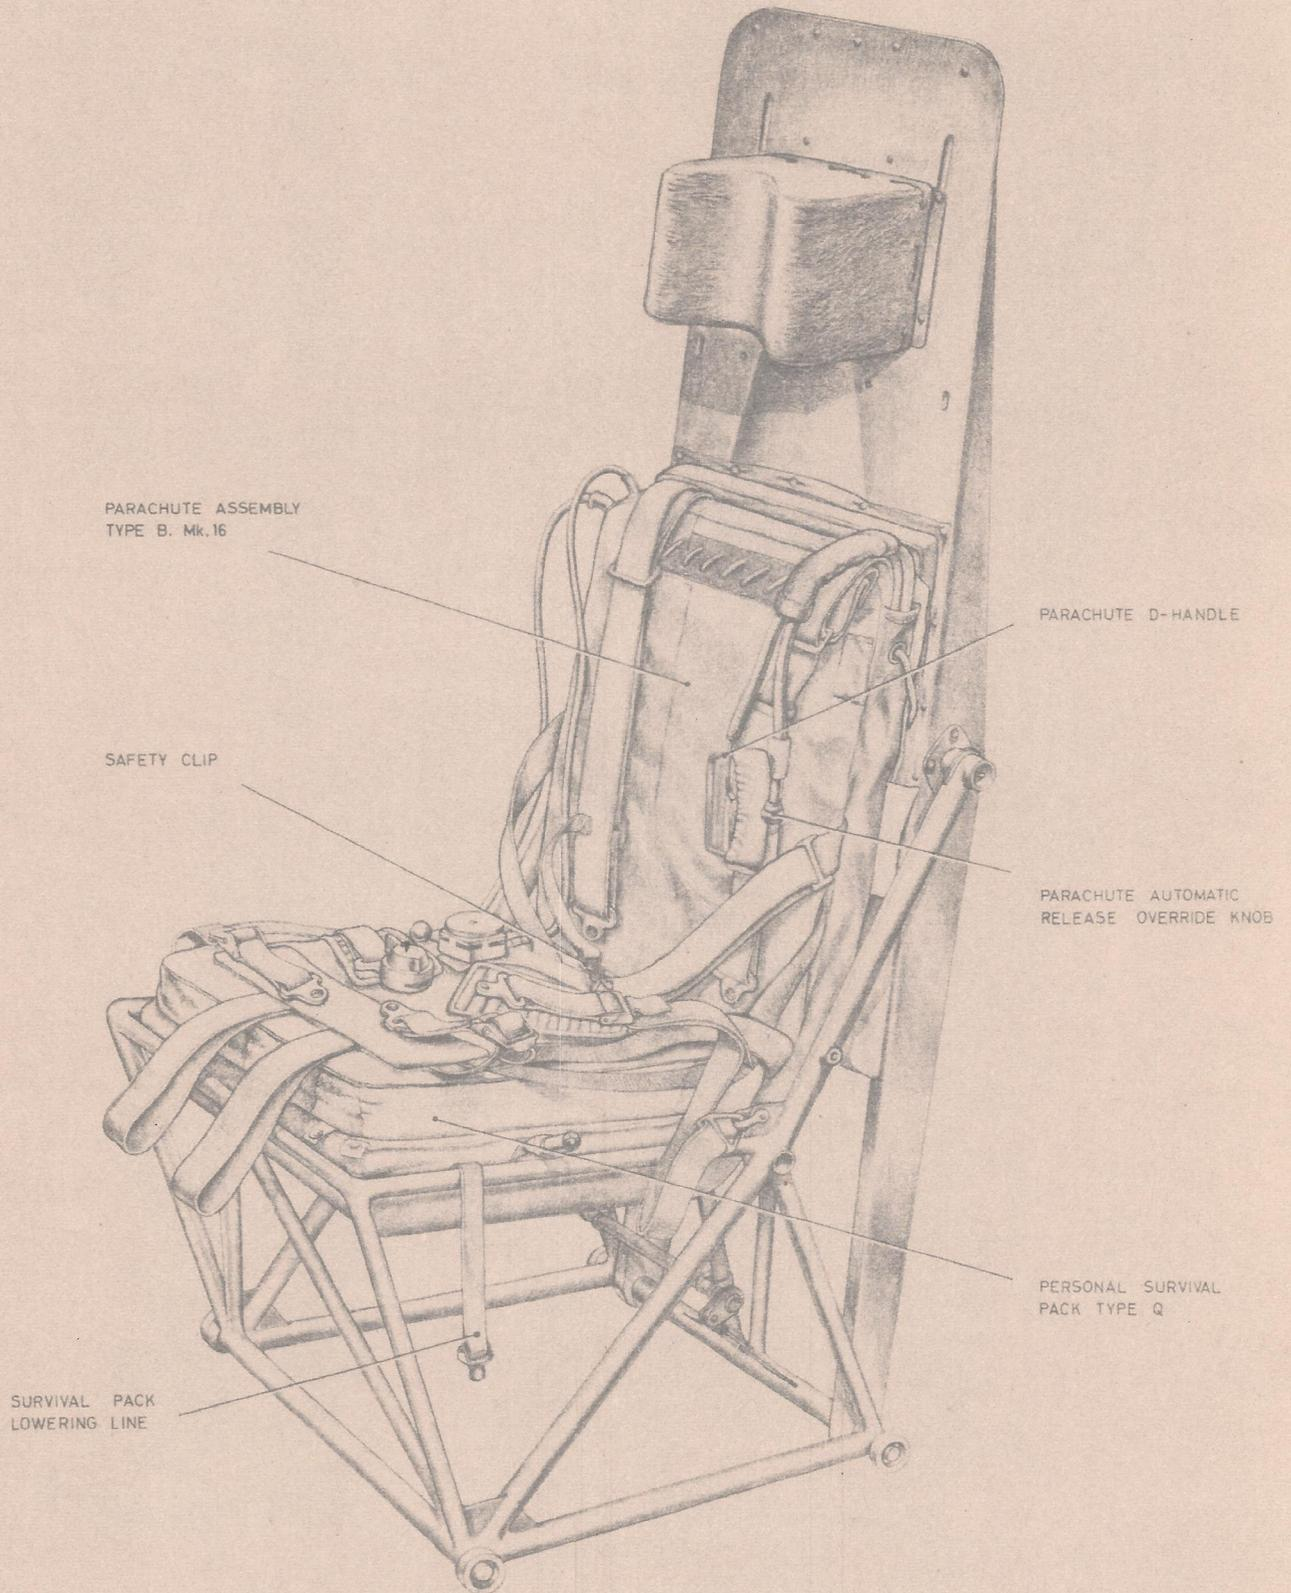

Fig. 6 The static seat equipped
19. To equip each of the static seats proceed as follows (fig. 6): -